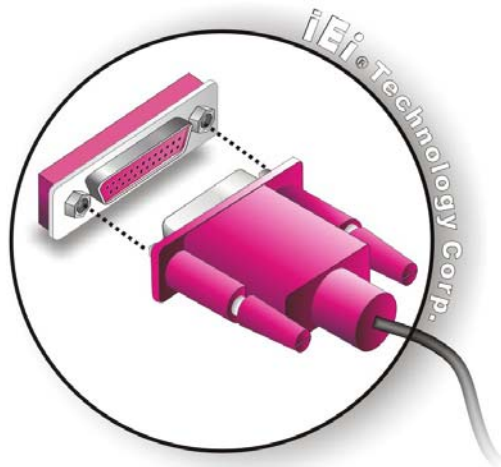

Figure 4-16: Connect the LPT Device
Step 5: Connect LPT device. Once the LPT interface connector is connected to the chassis, the LPT device can be connected to the LPT interface connector. See **Figure 4-16**